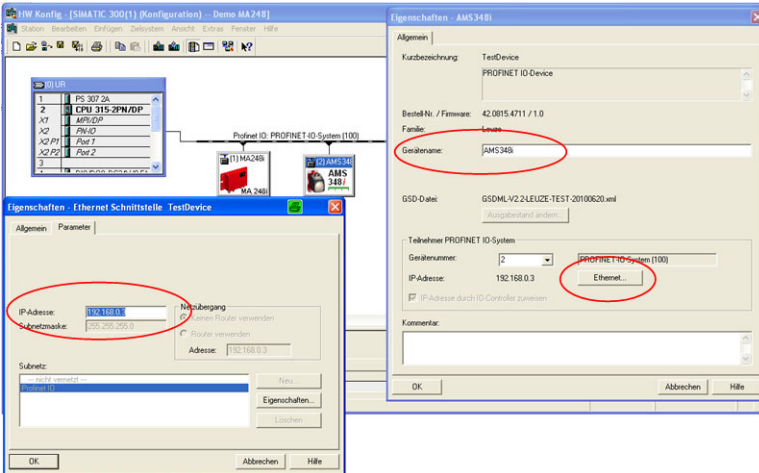

Figure 9.6: Assign unique device name in the properties window
- Assigning the device names to the configured IO devices (see figure 9.6)